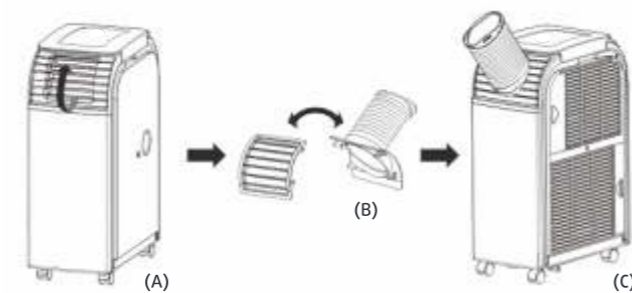

Fig. 6
**Installation of the hose in cooling / heating modes (Fig. 6)**
Disconnect the removable grill and the air outlet hose, as shown by the arrow in Fig. 6 – A, then interchange their position (B) and connect to the unit. Final structure is shown in Fig. 6 – C.